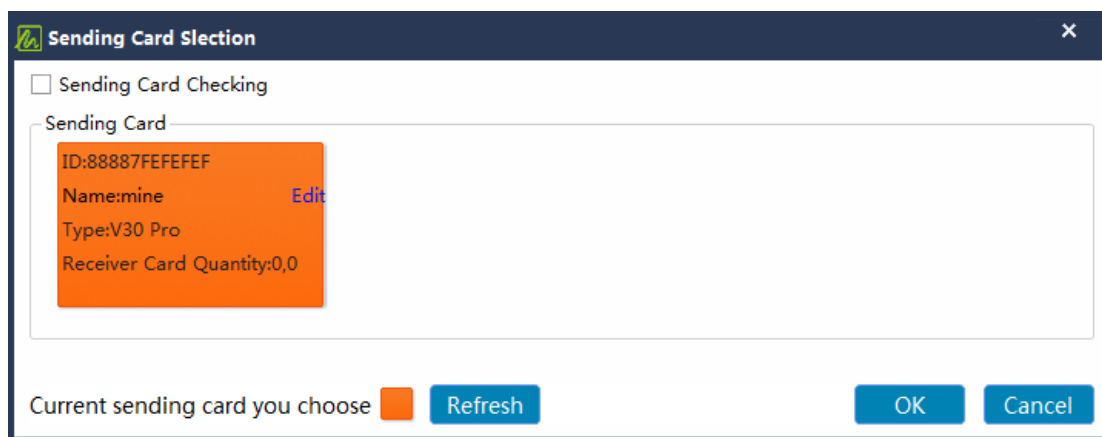

Figure 4-2-12 Sending Card Selection
- **Change Sender:** When there are multiple sending cards, you can click the "Change Sender " button to enter the sending card selection interface, as shown in Figure 4-2-12.